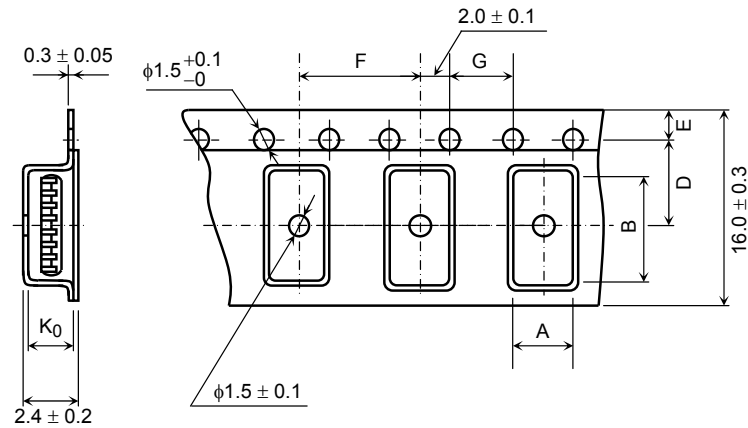

Figure2 Tape Forms
- (1) Tape material: Plastic (protection against electrostatics)
- (2) Dimensions: The tape dimensions are as shown in Figure 2 and table 2.